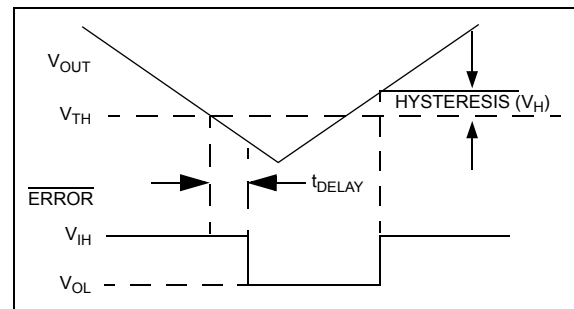

FIGURE 4-2: Error Output Operation.
| ERROR Threshold Voltage | V_{TH} | — | $0.95 \times V_R$ | — | V | See Figure 4-2 |
$\overline{\text{ERROR}}$ is driven low whenever V_{OUT} falls out of regulation by more than -5% (typical). This condition may be caused by low input voltage, output current limiting or thermal limiting. The $\overline{\text{ERROR}}$ threshold is 5% below rated V_{OUT} , regardless of the programmed output voltage value (e.g. $\overline{\text{ERROR}} = V_{OL}$ at 4.75V (typ.) for a 5.0V regulator and 2.85V (typ.) for a 3.0V regulator). $\overline{\text{ERROR}}$ output operation is shown in Figure 4-2.
- Changes to Figure 4-2.